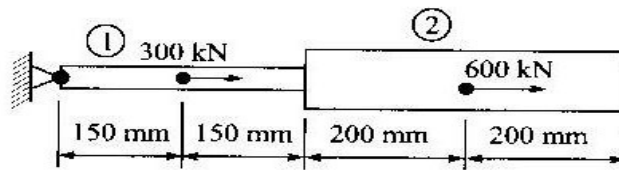

Figure. 1
17. (a) A two step bar subjected to loading condition as shown in Figure. 1. Draw the finite element model. Determine the Element stiffness matrices and assemble them into Global stiffness matrix by using four elements. Also write the element equation. CO2- App (16)
Figure. 1. Draw the finite element model. Determine the Element stiffness matrices and assemble them into Global stiffness matrix by using four elements. Also write the element equation. Take Area $A_1 = 250\text{mm}^2, A_2 = 400\text{mm}^2$ Young's Modulus = 200GPa.